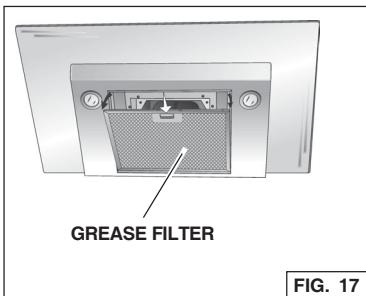

FIG. 17
1. To remove the GREASE filter, grip the latch tab and pull it down. This will disengage the filter from the hood. Tilt the filter downward and remove. Fig. 17.
2. To install the GREASE filter, align rear filter tabs with slots in the hood. Pull latch tab down, push filter into position and release. Make sure the filter is securely engaged after installation. Fig.17.